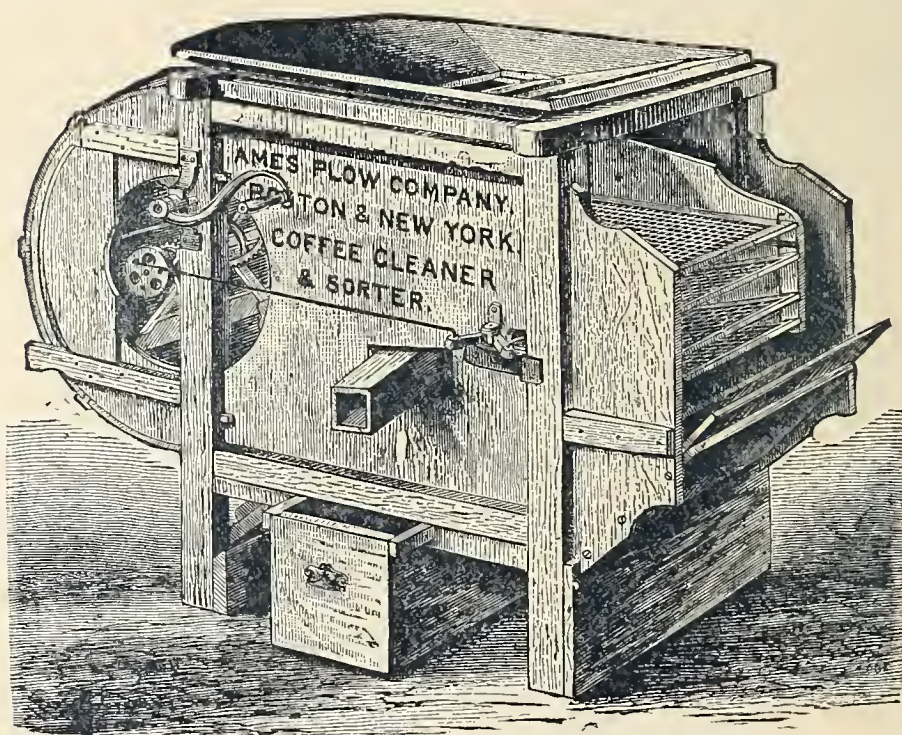

Fig. 403. — Grant Coffee Fan-Mill.
*The Grant Coffee Fan-Mill*, represented by *Fig. 403*, is made on same principle as the GRANT MILL already described, but with additional arrangements for